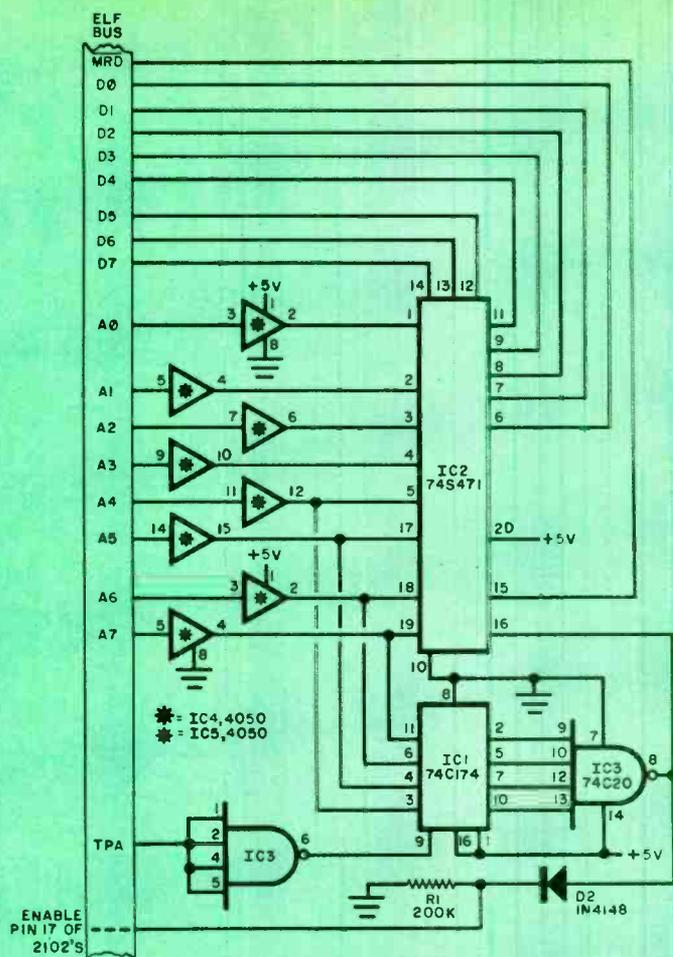

Fig. 1. The ROM (IC2) contains the monitor program and is addressed at F000 by IC1 and IC3.
**Monitor.** The monitor program (overleaf) is stored in ROM IC2 in the circuit shown in Fig. 1. The address of IC2 corresponds to the hex address F0 00 where the most significant four bits of the high-order address are all high. The